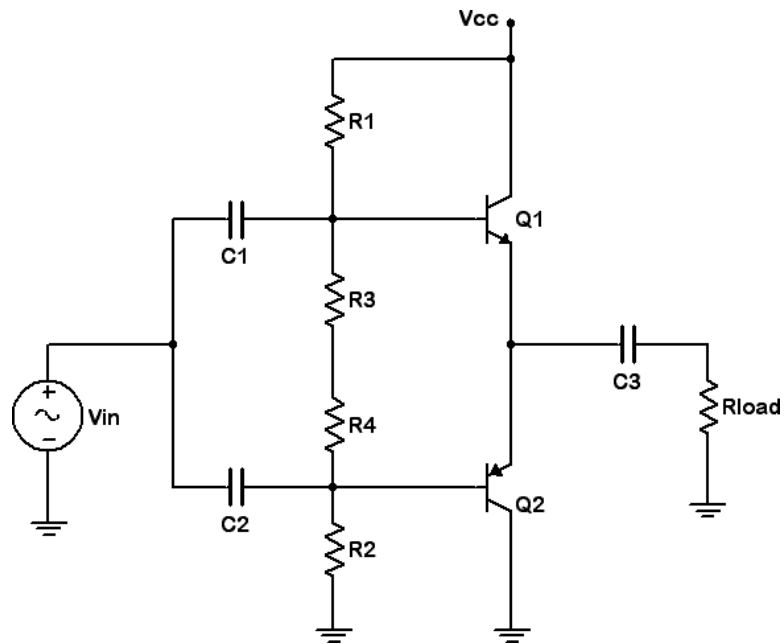

Figure 1
1. Consider the circuit of Figure 1 using  $V_{cc} = 6$  volts,  $R_1 = R_2 = 2.2 \text{ k}\Omega$ ,  $R_3 = R_4 = 220 \text{ }\Omega$ ,  $R_{load} = 100 \text{ }\Omega$ ,  $C_1 = C_2 = 10 \text{ }\mu\text{F}$  and  $C_3 = 100 \text{ }\mu\text{F}$ . Ideally this circuit will produce a compliance of just under 6 volts peak-peak.
2. Build the circuit of Figure 1 using  $V_{cc} = 6$  volts,  $R_1 = R_2 = 2.2 \text{ k}\Omega$ ,  $R_3 = R_4 = 220 \text{ }\Omega$ ,  $R_{load} = 100 \text{ }\Omega$ ,  $C_1 = C_2 = 10 \text{ }\mu\text{F}$  and  $C_3 = 100 \text{ }\mu\text{F}$ . Disconnect the signal source and insert an ammeter into the collector of Q1. Record  $I_{CQ}$  in Table 1.